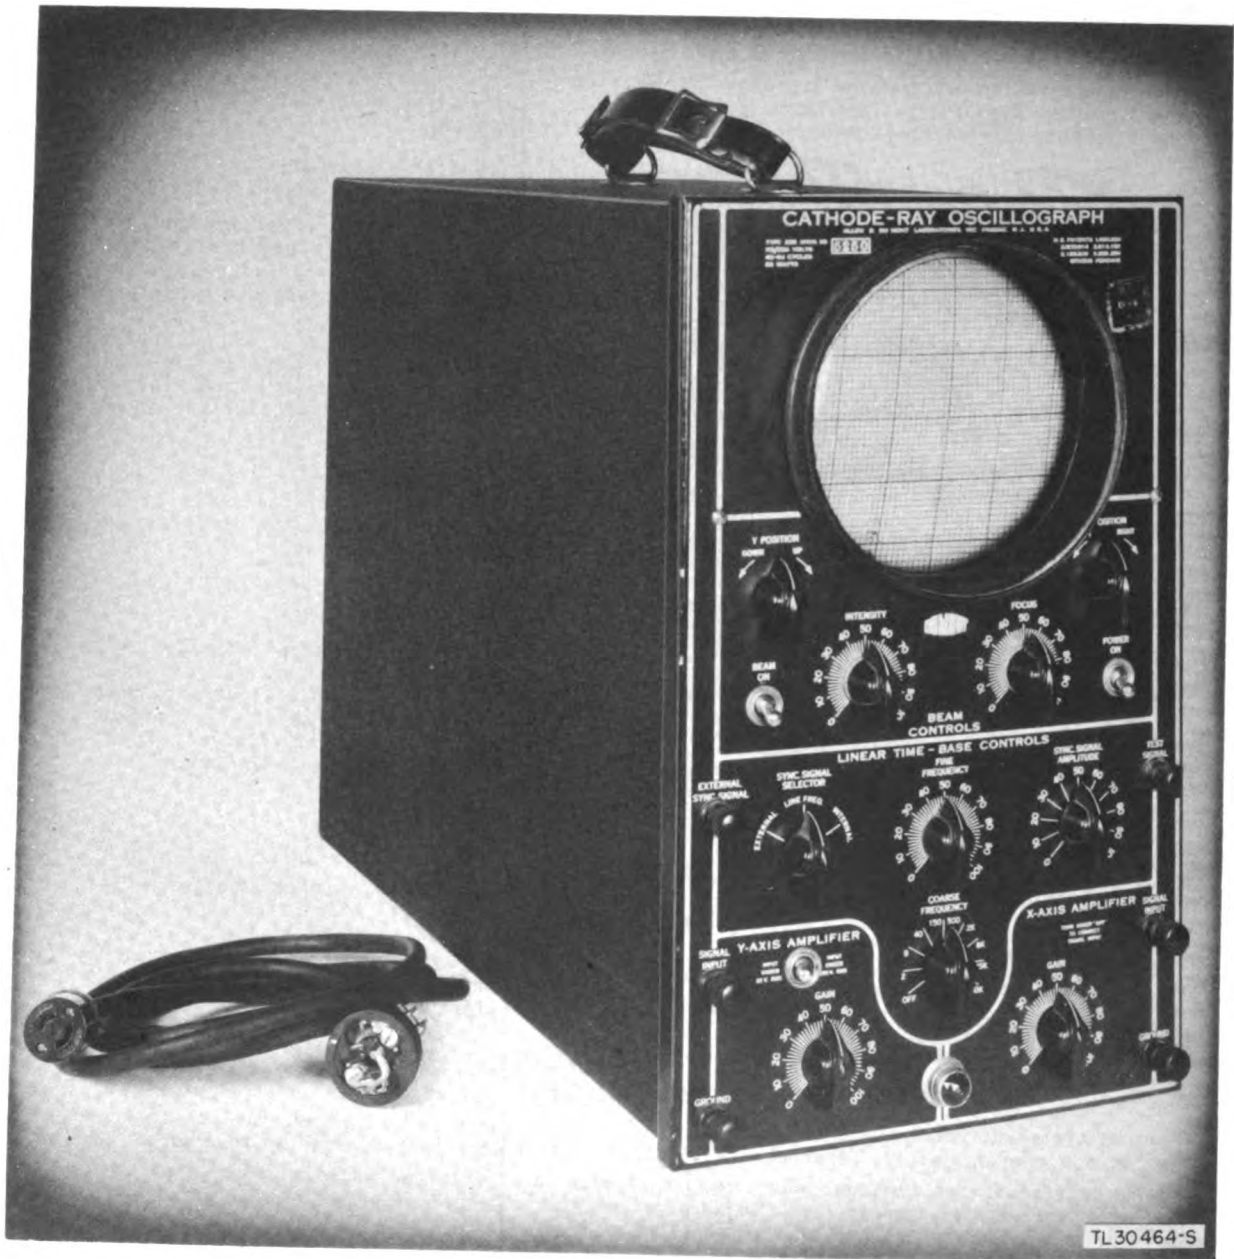
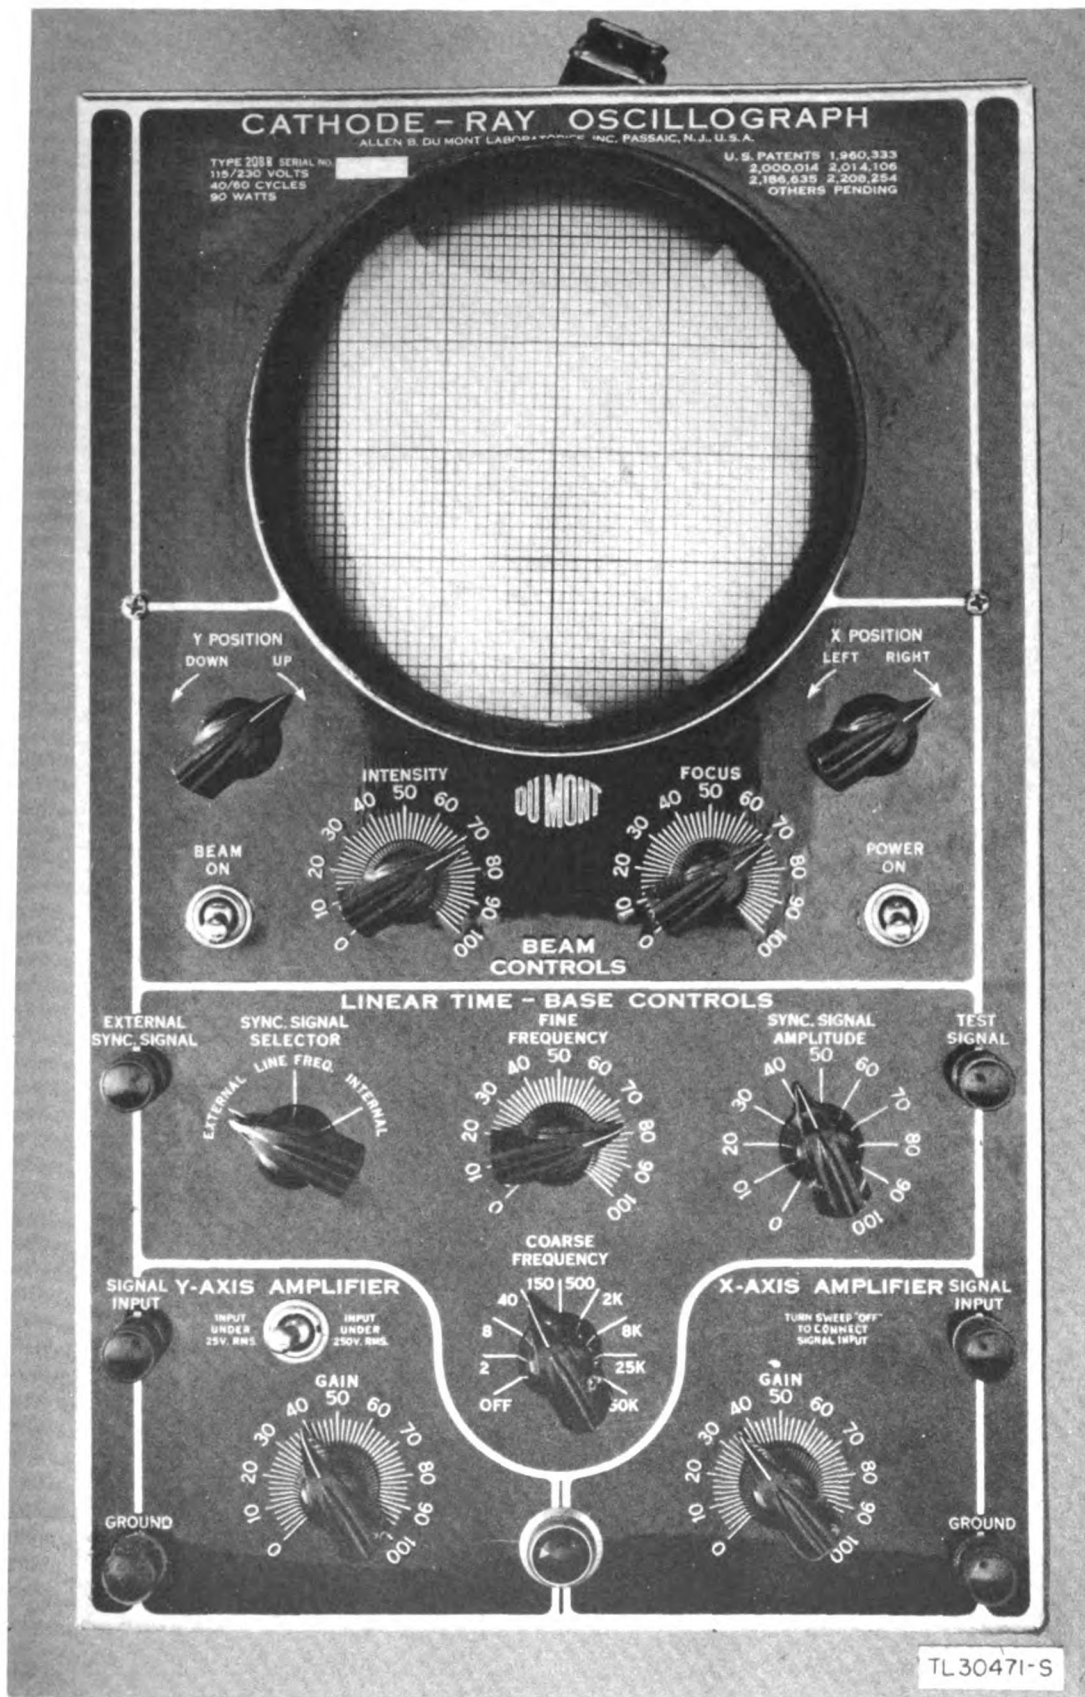
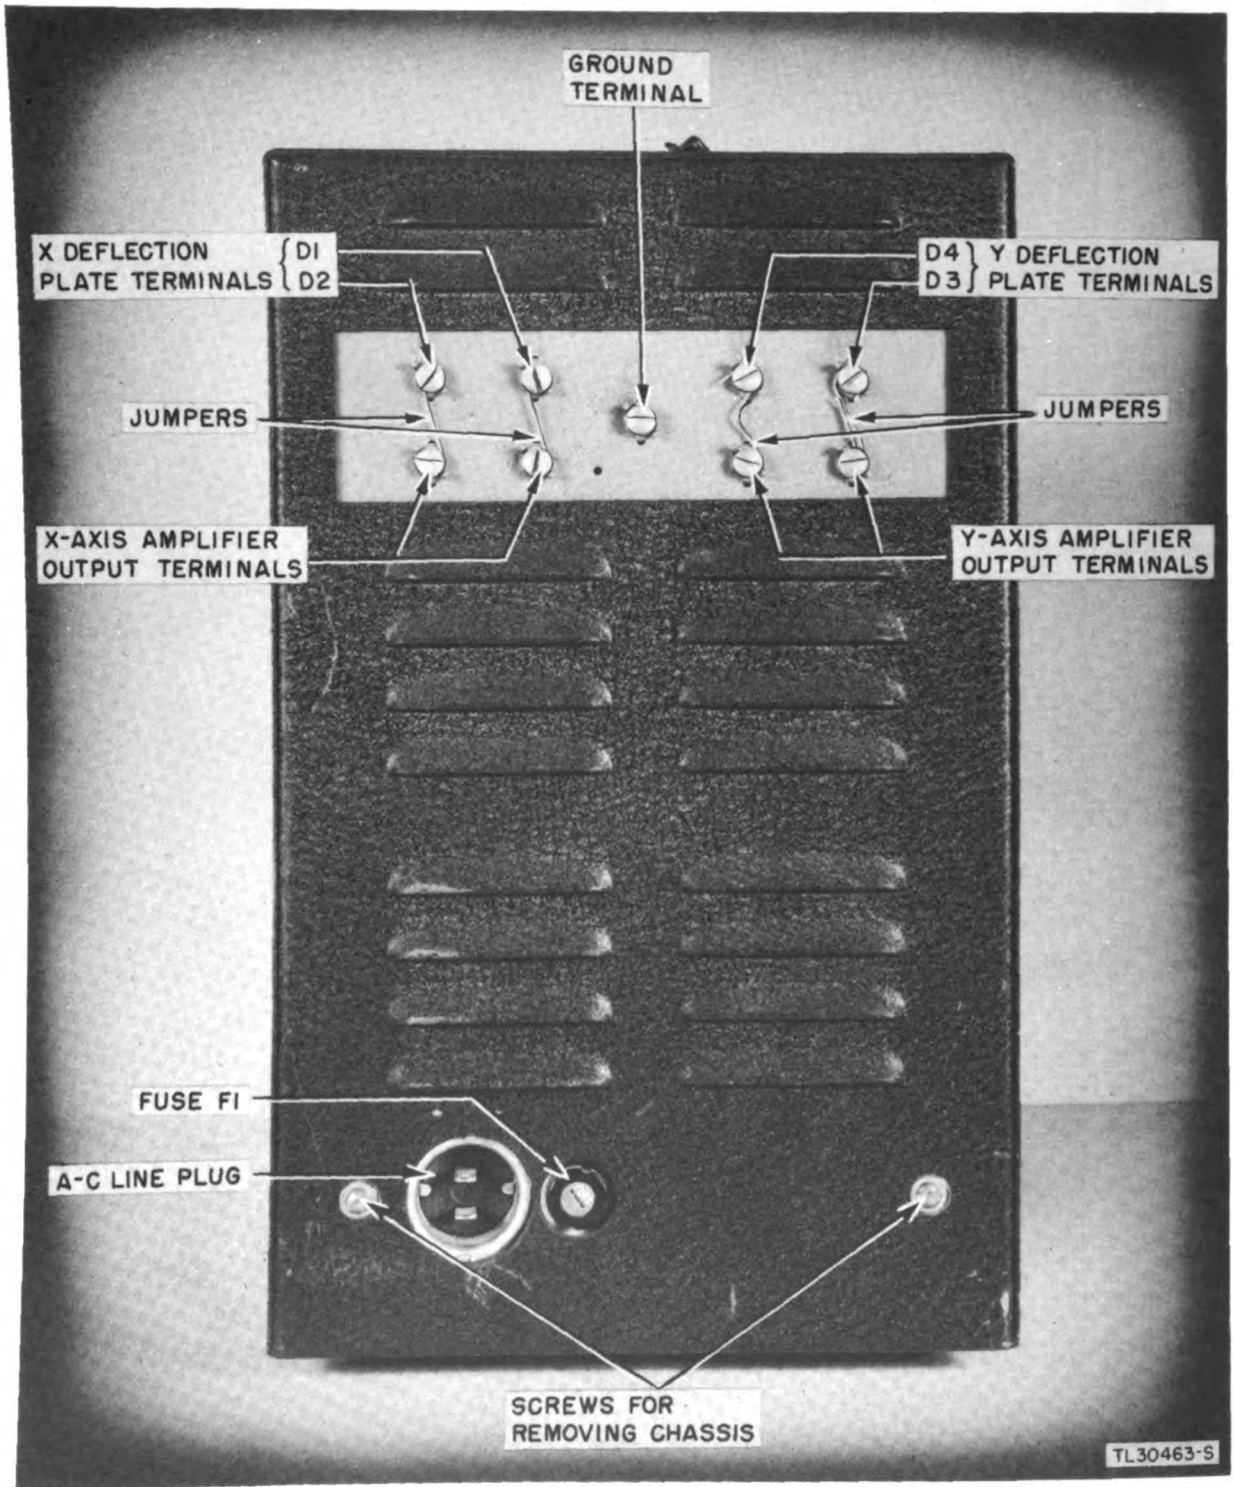

Figure 1. Oscilloscope I-245-B.
Figure 2. Oscilloscope I-245-B, front view.
Figure 3. Oscilloscope I-245-B, rear view.
Oscilloscope I-245-B is the Du Mont type 208-B cathode-ray oscilloscope (fig. 1). It is used for viewing waveforms and checking frequencies and phase relations at various test points in radio and radar sets. It consists of a cathode-ray tube using electrostatic focusing and deflection and connected in a conventional cathode-ray oscilloscope circuit. The instrument is mounted in a metal case with the operating controls located on the front panel. The screen of the cathode-ray
The oscilloscope is mounted in a black wrinkle-finished steel cabinet supplied with a carrying handle (fig. 1). All of the controls and the input connection terminals for both amplifiers and the synchronizing circuit are available on the front panel (fig. 2). Direct connection to the deflecting plates may be made by means of terminals at the back of the case (fig. 3). Access to the inside
Before handling Oscilloscope I-245-B, carefully read the instructions covering its use; it is a delicate electrical instrument and must be handled with care. *Pay particular attention to all cautions.* They are inserted to guide the user and to protect the equipment. Before turning on the oscilloscope, set the controls as follows (fig. 2):
10. STARTING THE OSCILLOSCOPE (fig. 2).
(1) **Y SIGNAL INPUT.** Signals for Y-deflection within the frequency and voltage range of the Y-amplifier (par. 2) are normally connected between the Y SIGNAL INPUT terminal and the GROUND terminal (fig. 2). The amplitude of deflection produced then depends upon the setting of the Y attenuator and Y GAIN controls, and these are adjusted until the desired deflection is produced.
(2) **Direct Deflection.** Signals may be connected directly to the Y-deflection plates of the cathode-ray tube by using the Y-deflection plate terminals (D3 and D4) on the terminal board at the back of the instrument (fig. 3). The jumper between the upper and lower terminal of each pair is disconnected, and the connections are made to the upper terminals. If the signal voltage is being measured with respect to ground, D4 should be grounded and the signal connected to D3. Connect a 5- to 10-megohm resistor from D3 to the ground terminal. If the signal is being measured between two points neither of which is at ground potential, each signal lead is connected to a deflection plate terminal, and a 5- to 10-megohm resistor is connected from each terminal to ground. If the signal is directly coupled to the deflection plate terminals, d-c voltages from the signal source will deflect the beam from its normal centered position. If this is undesirable, the signal may be capacitively coupled to the terminal by inserting a capacitor between the signal voltage and the terminal. Normally the Y POSITION control has no effect when the signal is directly connected, but it may be used when the signal source has high impedance by replacing the jumpers normally used with 5- to 10-megohm resistors. Small bypass capacitors should then be connected from the two lower terminals to ground.
(1) **X SIGNAL INPUT.** When the COARSE FREQUENCY control is set to its extreme counterclockwise or OFF position, the X-axis amplifier is connected between the X SIGNAL INPUT terminal and the GROUND terminal (fig. 2). The amplitude of horizontal deflection produced then depends upon the X GAIN control; this control is adjusted until the desired deflection is produced. The range of signal voltage and frequency which may be used to give X-axis deflection is given in paragraph 2. *If these values are exceeded, the X-amplifier may be overloaded and the pattern distorted.*
(2) **Direct Deflection.** Signals may be connected directly to the X-deflection plates of the cathode-ray tube by using the X-deflection plate terminals (D1 and D2) on the terminal board at the back of the instrument (fig. 3). If the signal is unbalanced, D1 should be grounded. Otherwise the information given in subparagraph a (2) above for Y-axis direct deflection applies to the X-axis as well.
c. **Sweep Generator.** The sweep generator is connected to the X-axis amplifier when the COARSE FREQUENCY control is set in any position except OFF. It produces a horizontal deflection of the beam by applying a saw-tooth voltage to the X-deflection plates through the X-amplifier. The resulting horizontal deflection consists of a uniform motion of the beam from left to right on the face of the tube, followed by a rapid return of the beam to its starting point. This is repeated at a rate depending upon the setting of the COARSE and FINE FREQUENCY controls (fig. 2). When the sweep is used to provide a timebase, it is ordinarily adjusted by means of the frequency controls to the same frequency as that of the Y-axis signal, or a frequency which is some simple fraction of the signal frequency, such as one-half or one-third. This produces a stationary pattern on the screen.
d. Synchronization. To hold the pattern stationary on the screen, it is necessary to apply a small synchronizing signal to the sweep generator. This signal is usually of the same frequency as the signal being observed, but may be a multiple or submultiple of that frequency if external synchronization is being used. This is accomplished by means of the SYNC SIGNAL AMPLITUDE and SYNC SIGNAL SELECTOR controls and the EXTERNAL SYNC SIGNAL terminal (fig. 2).